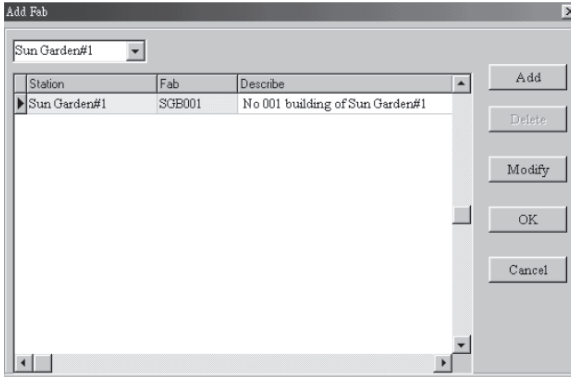

Fig. 4.8
2.2. Click “OK” to end the setting up of Comat BoxX1, as in Fig. 4.8.